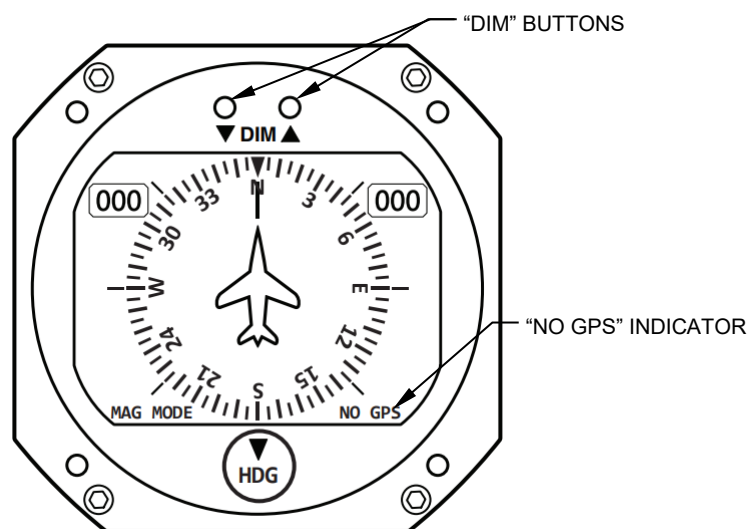

Figure 12
27. Move the aircraft outside to allow the Heading Indicator(s) to acquire a GPS signal. The "NO GPS" indicator should extinguish once the signal is established. Reference Figure 12.